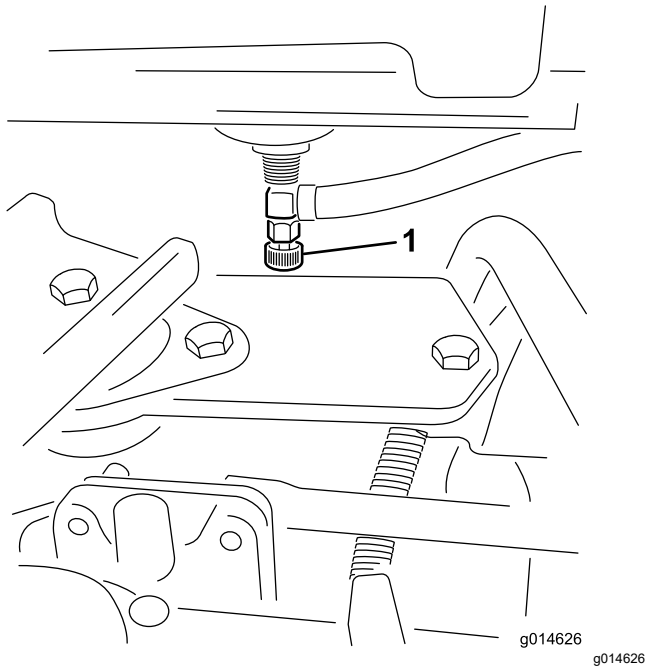

Figure 44
1. Close the fuel-shutoff valve (Figure 44) below the fuel tank.